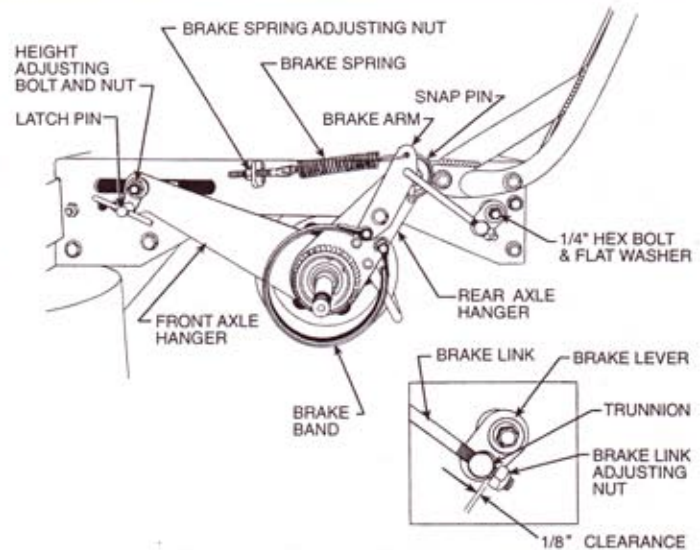

FIG 12 Wheel Brake Adjustment
3. To reduce Brake drag, check brake link adjusting nut clearance of 1/8" Fig. 12. If clearance is correct and brake still drags decrease clearance by tightening brake link adjusting nut on the respective brake mechanism.